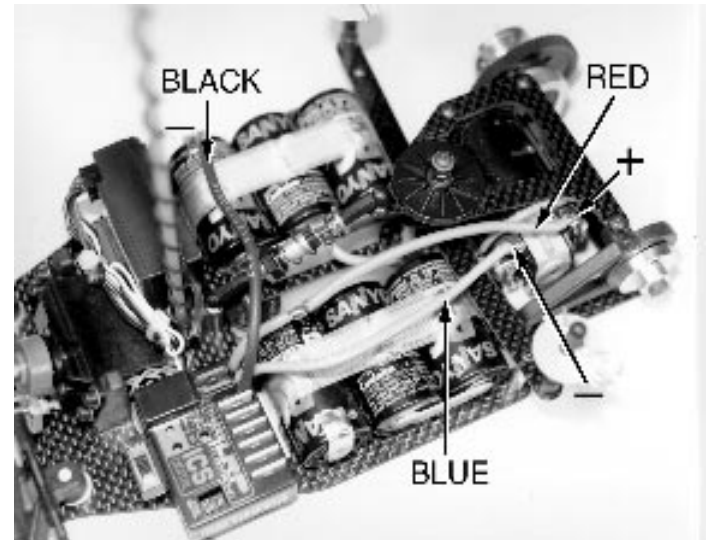

Fig. 94
□ **Figs. 94 & 95** Now we connect the battery and motor wires. Start by measuring the motor wires. We will start with the black battery negative wire. This connects to the negative tab of the battery on the right or passenger side of the car. Keep the wire as short as possible but still have a little bit of movement in the wire. We also want to keep the black wire about an inch away from the antenna wire. This will help to make sure that the antenna cannot pick up any electrical interference from the battery pack.